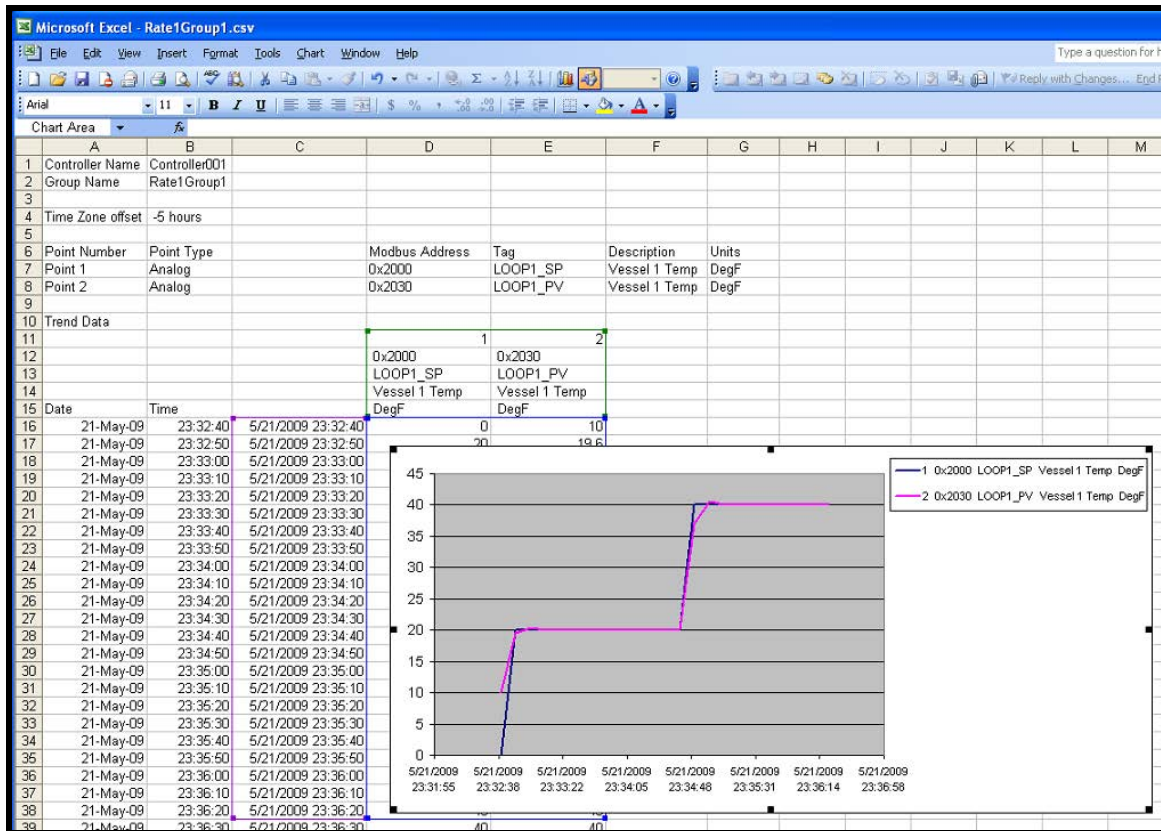

Figure 10-5 Graph the data using Column C as the date/time axis values
Step 5: Graph the data using the new date-and-time column as the time axis, as shown in Figure 10-5.